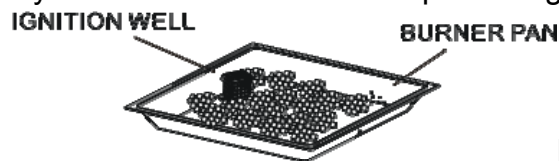

Figure 6
4. Pour the lava rocks or fire ice into the burner pan completely covering the burner. The weight of lava rocks is (3.6kg plus and minus 10%); the weight of the fire ice is (8kg plus and minus 10%). Remove any lava rocks or fire ice on top of the ignition well. See Figure 6.